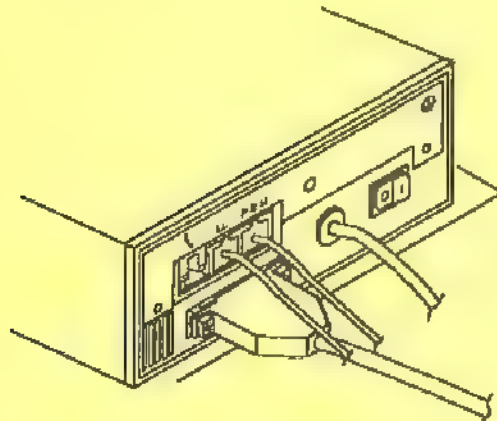

Figure 4-4. Attaching a DTE Cable
**Step 22** Detach the DTE wrap plug from the modem and then connect the 25-pin EIA cable from the DTE to the 25-pin connector on the modem's rear panel as shown in Figure 4-4. Fasten the connector's retaining screws.